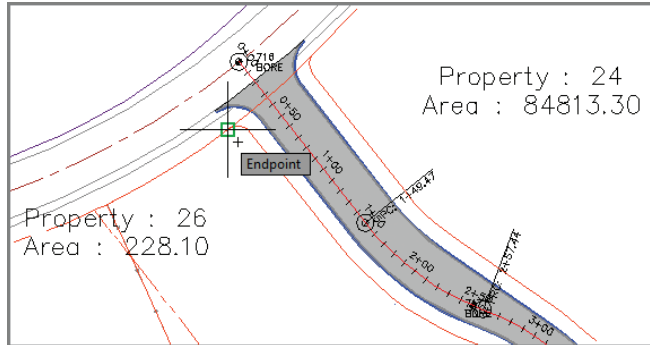

FIGURE 12.13 Selecting the beginning point of the frontage
- When you're prompted for the start point of the frontage, snap to the endpoint of the right-of-way line at the entrance of Jordan Court, as shown in Figure 12.13.